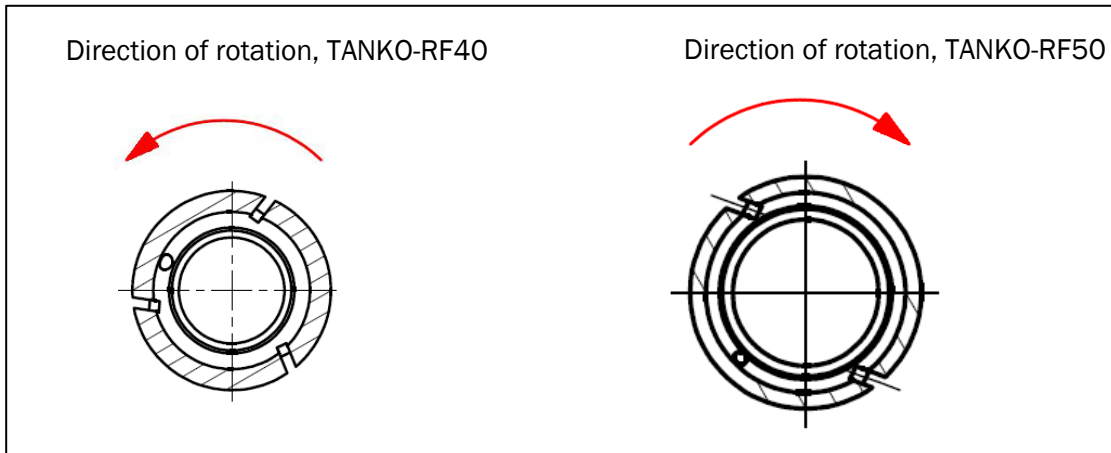

Figure 7.4-6: Direction of Rotation of the Spray Head
1. Fit a new O-ring (14) on the plate axle (2).
2. Fit a new O-ring (15) on the housing.
3. Press the new plain bearings (7) at the top and (8) bottom into the spray head (9), while observing Figure 7.4-6: Direction of Rotation of the Spray Head.
4. Fit the spray head assembly (7, 8 and 9) with plain bearing (7), larger inner diameter ( $\varnothing 10.1$  for RF40 and 16.1 for RF50)) facing downwards on to the plate axle (2).
5. Plug the plate axle (2) and axle center section (3) together, align the clip holes with each other and push a new wire locking pin (5) through.
**NOTE** Bend the locking pin so that it does not rub at any point when it is inserted into the housing (1) and the spring (10).
6. Insert the plate axle (2) with axle center section (3) and spray head assembly (7, 8 and 9) into the housing (1) from below. Slide the spring (10) over the axle center section (3) and screw on the axle cover (4) using a suitable tool.